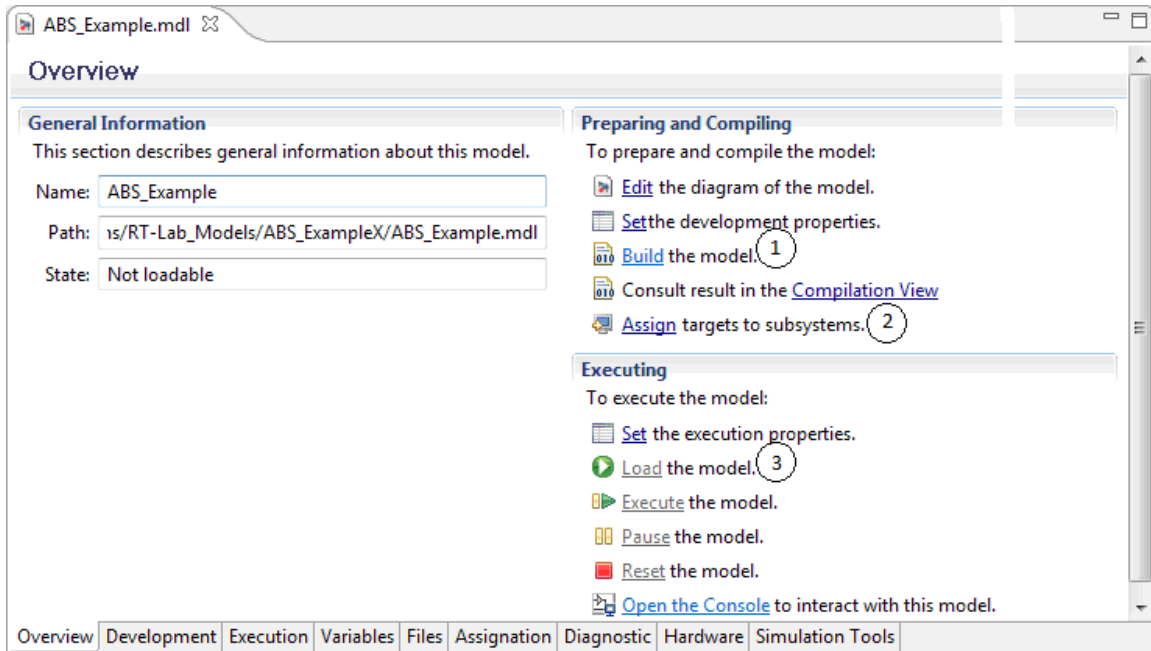

Figure 12. Model Overview in "RT-Lab GUI" software.
This will open **ABS_Example.mdl** in the "RT-Lab GUI" software (Figure 12).
Go back to the **Overview** tab (Figure 12) and click **Build** ①. When the model is done building, click **Assign targets to subsystems** ②.